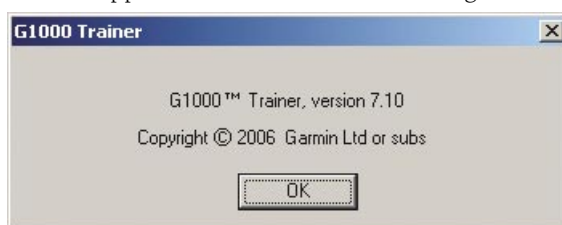

Figure 12 Copyright and Software Version Information
- About – provides copyright and software application version information (Figure 12).